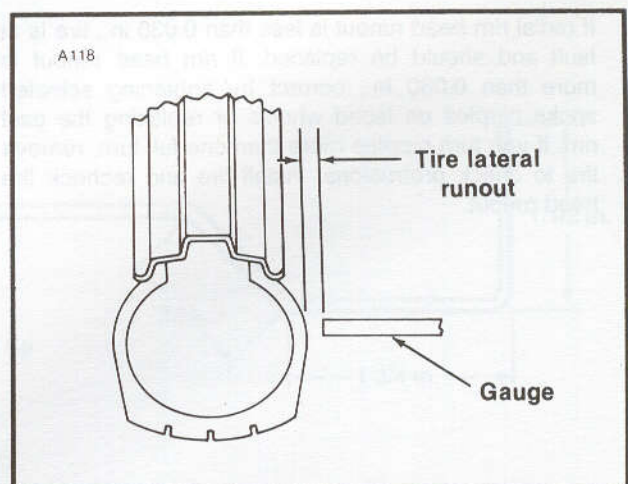

Figure 2-31. Checking Tire Lateral Runout
11. See Figure 2-31. Check lateral runout by turning wheel on axle, measuring amount of sideways displacement from a fixed point near the tire sidewall.